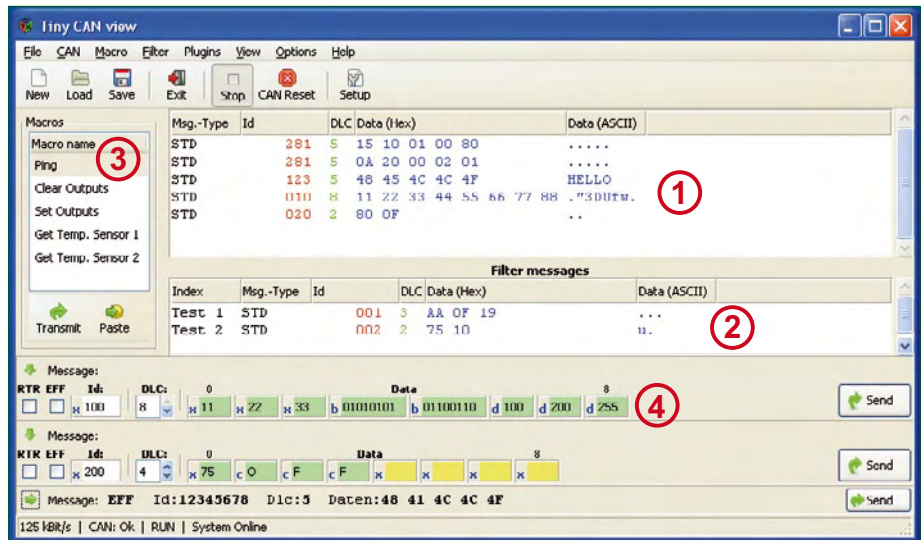

Figure 4. The relevant information is clearly laid out in the main window of the software.
In the main window (see Figure 4) you can see all information at a glance. In (1) the received messages are displayed. This requires that the trace